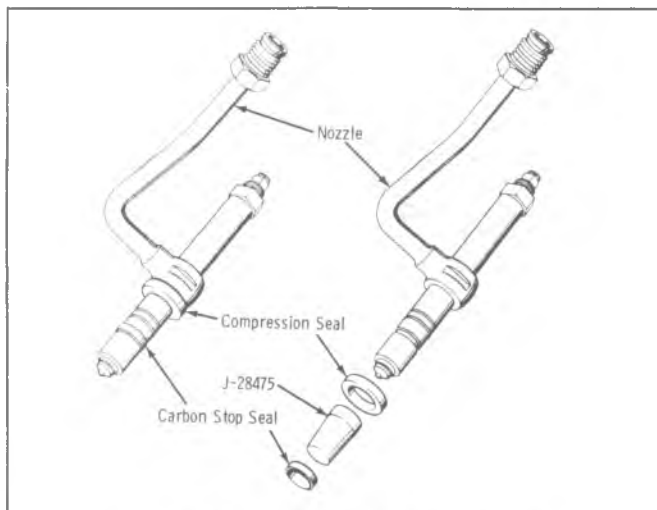

Fig. 6A6-43—Installation of Nozzle Seals
4. Position rocker arms, pivots and bolts on cylinder head as shown in Fig. 6A6-42.